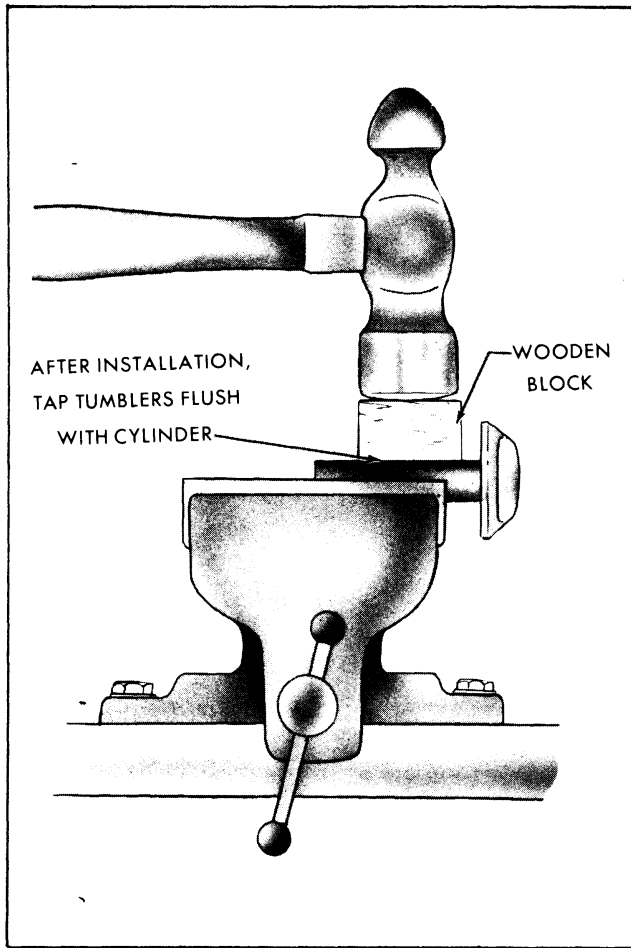

Fig. 1-7-Locking Tumblers In Place
4. Place small wooden block flat on exposed tumblers and tap tumblers down flush with cylinder, as shown in Figure 1-7.